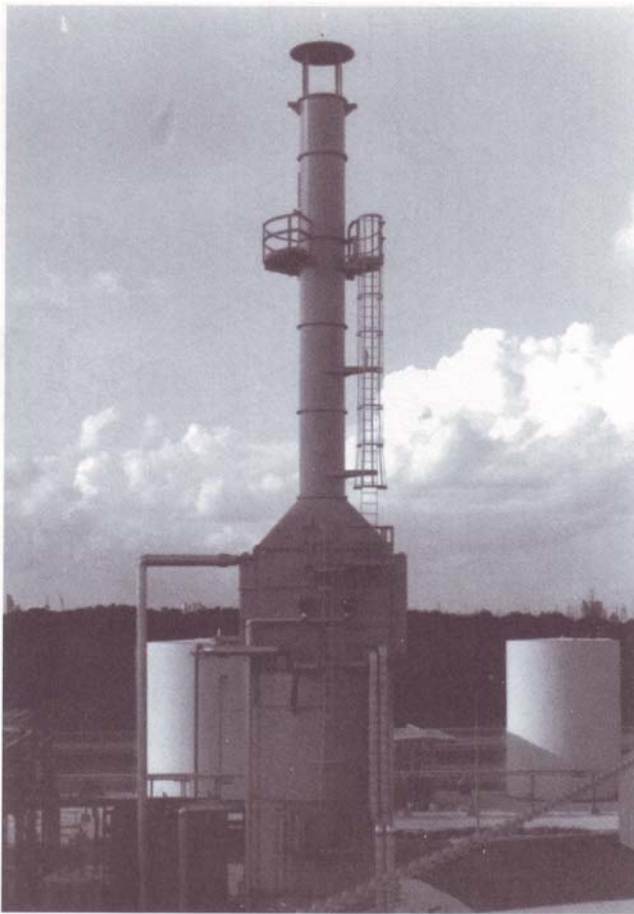

FIGURE 6.33 Vertical heater. Courtesy of Nisseki Chemical Texas, Inc., Bayport, Texas.
*Heaters*, or furnaces as they are also known (see Figure 6.33), are used to raise the temperature of a feed stock to the point where it can be used in a process facility. Some feeds, like crude oil, must be heated to approximately 700°F before it can be piped into a fractionation column where it refining process begins. Fire brick lines the interior walls of a heater to retain heat. Open-flame burners, fueled with oil or gas, are